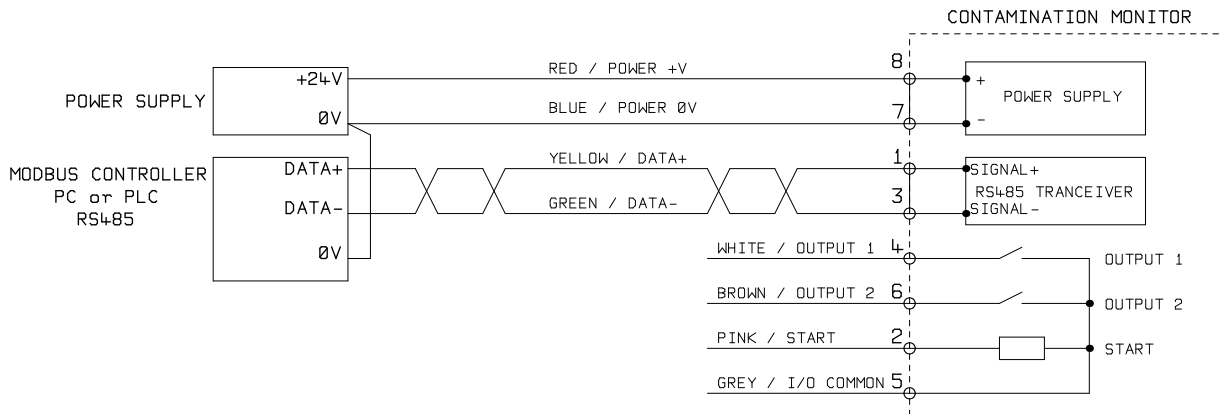

Figure 1 LPM Electrical Connection
- Connect 24V DC power supply. See Figure 1.
The LPM requires a DC power supply and the two Modbus RS485 signals, as shown in Figure 1. The numbers shown are the pin numbers of the circular connector that plugs into the LPM.